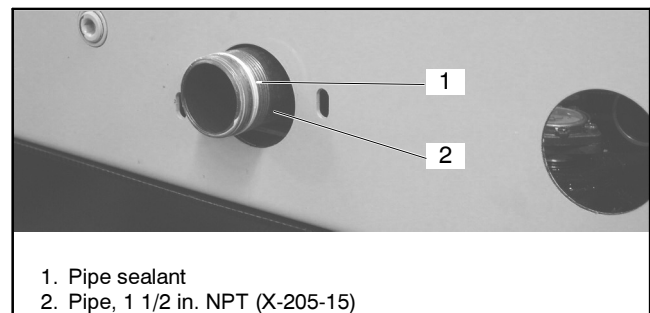

Figure 15 Pipe Sealant Location for Short Vent Pipe
- 2.2.10 Apply pipe sealant to threads on 1 1/2 in. NPT X-205-15 pipe. See Figure 15.